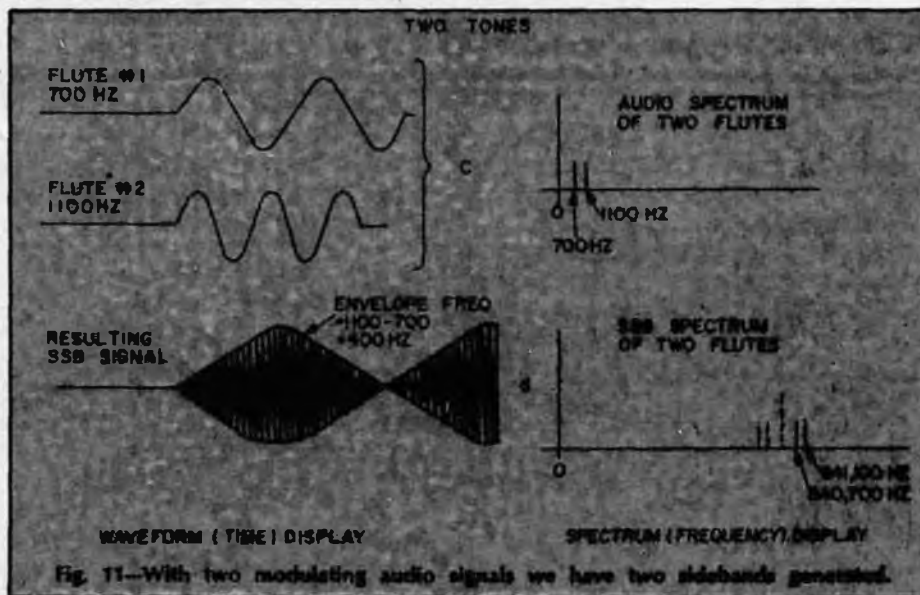

Fig. 11—With two modulating audio signals we have two sidebands generated.
**Hardware for AM Systems.** One of the most-straightforward methods of producing AM is the method invented by the Canadian Reginald Fessenden, in 1905. In his system, a radio frequency generator produced the carrier wave, which was fed to the antenna through a carbon (variable-resistance) microphone. See Fig. 11.
Fig. 11—The first radiotelephone broadcast transmitter, invented by Canadian Reginald Fessenden, who broadcast voice and music to a few ships at sea on Christmas Eve, 1905. It worked, but was very noisy.
**Hardware for SSB.** Since SSB is merely a very sophisticated version of ordinary AM, you might expect that you could generate a SSB signal by some kind of change to the basic AM system. In fact, a three-step change to that figure will give an understanding of how SSB is generated. In the first step, (Fig. 11), we have added another carrier power amplifier, an inverter, and an adder (the new parts are shown in bold lines).